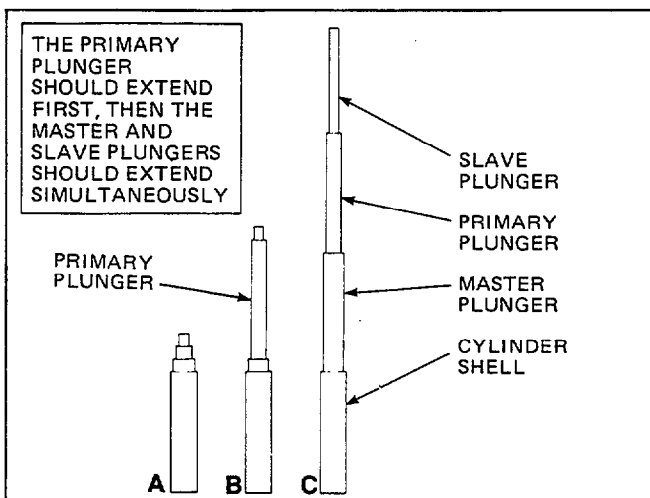

Figure 19. Sequence of Hoist Cylinder Plunger Extension
When the mast is actuated from the fully lowered position, the primary plunger should extend from within the master plunger to the end of its stroke. Then the master and slave plungers should extend simultaneously to the end of their strokes. See Figure 19. The lowering of the plungers is a reversal of extension.
5. Operate the cylinder with about a half-capacity load to check for proper sequencing. If the slave plunger extends too fast and the master plunger does not extend at all, the sequence valve is not opening. Turn the adjusting nut clockwise **one turn only**. Reinstall the bleed fitting and retest. Continue this process until the cylinder sequences properly. See Figure 19. The adjusting nut should be turned 10 turns maximum.